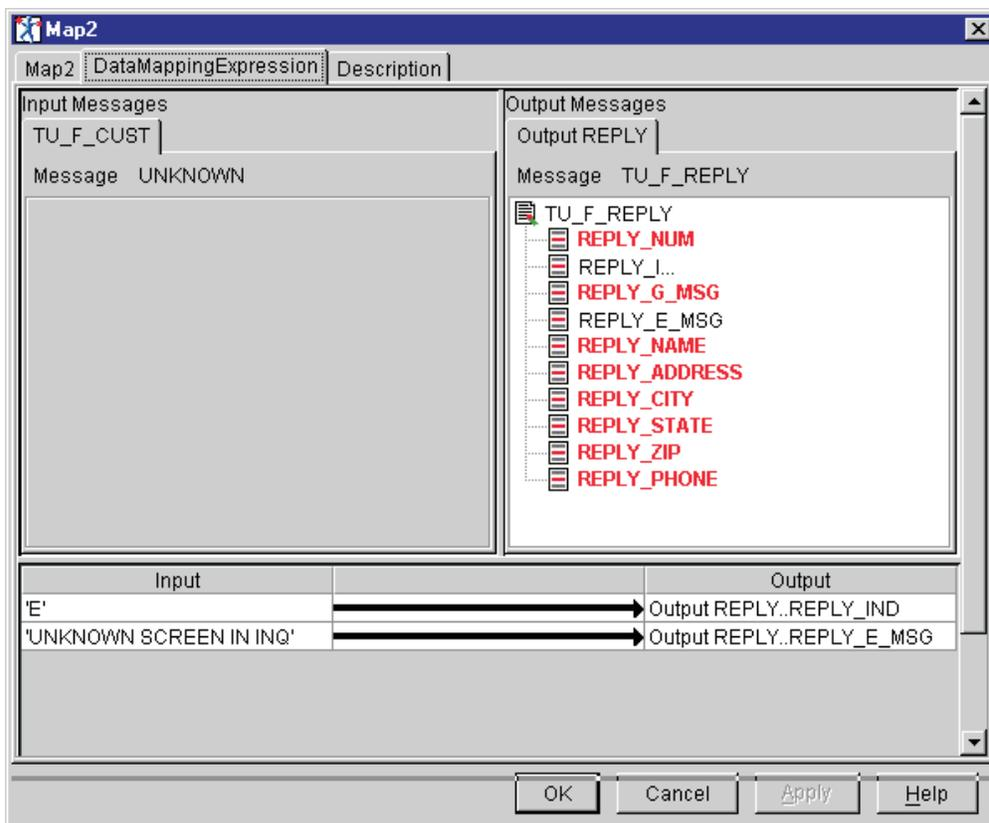

Figure 133. Mapping for Map2 node
- 2) Perform the mapping for the Map2 node as listed in Table 60 and shown in Figure 133 on page 174. This mapping occurs in the case where an Unknown screen is received from the TU\_F\_CUST command. These mappings set the REPLY\_IND to 'E' and creates an error message. Use literal mappings to perform these field mappings, as was done in step 2c1c on page 172 of the **Define the Mappings** task.